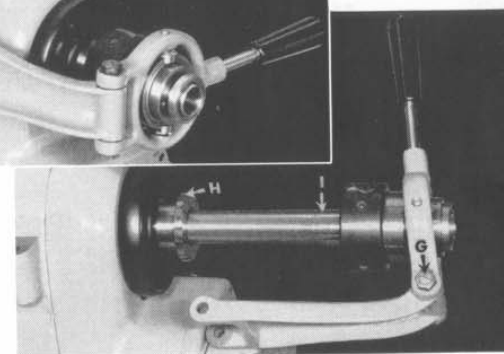

Figure 7
6. Move lever "D" to the right to the released position and turn shell guard "C" toward operator so that latch "A" advances two notches on the adjusting nut "H" — Figure 7.